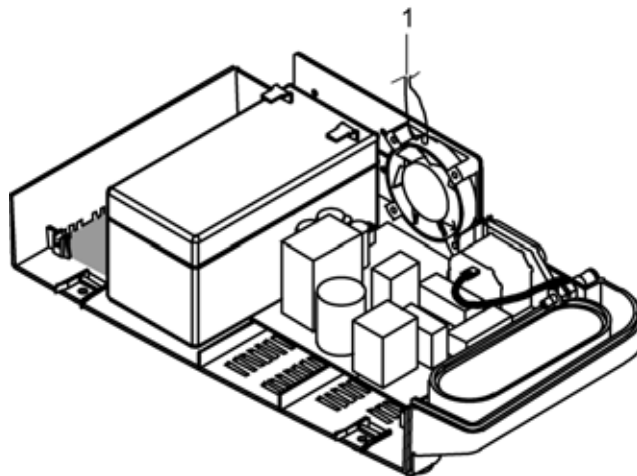

Figure 31: Fan Wires
3. Unwrap the two fan wires, Figure 31 item 1, from the wiring harness.